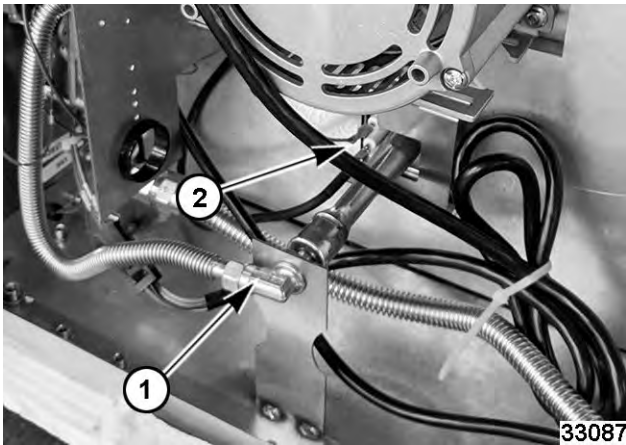

Fig. 21
2. Remove nut holding orifice assembly (1, Fig. 21).
3. Disconnect lead wires to electrode assembly (2, Fig. 21).